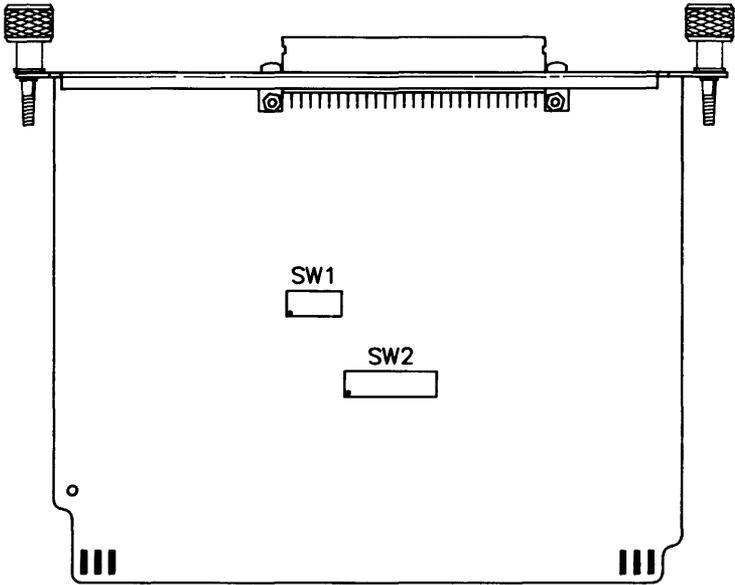

Figure 3-1. Series 300 Interface Card
2. Remove the cover plate on the front bottom of the HP 98700 and place it in the storage position provided. Plate must be installed over the connector for the HP 98700 to operate by itself. See figure 3-1.